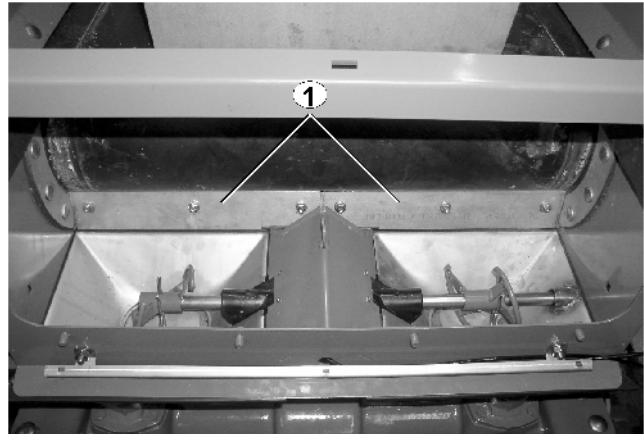
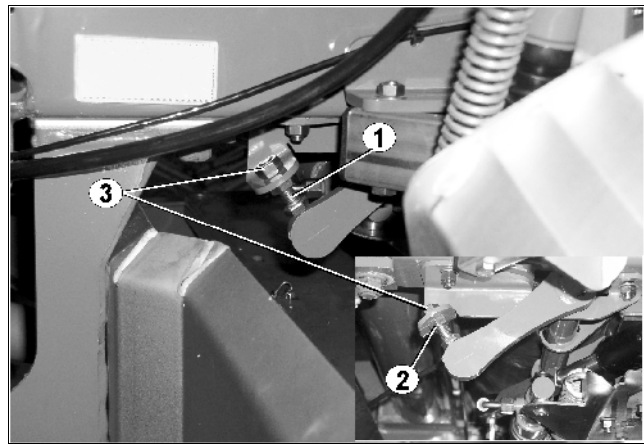

Fig. 46
Fig. 47
- The pressure of the scraper (Fig. 46/1) on the belt floor is adjusted on both sides of the machine with the aid of the setting screw (Fig. 47/1):
- Tighten the nut (Fig. 47/2) of the setting screw until the segment plates are in straight position on the floor belt.
- Tighten counter nut (Fig. 47/3) with appropriate tool.